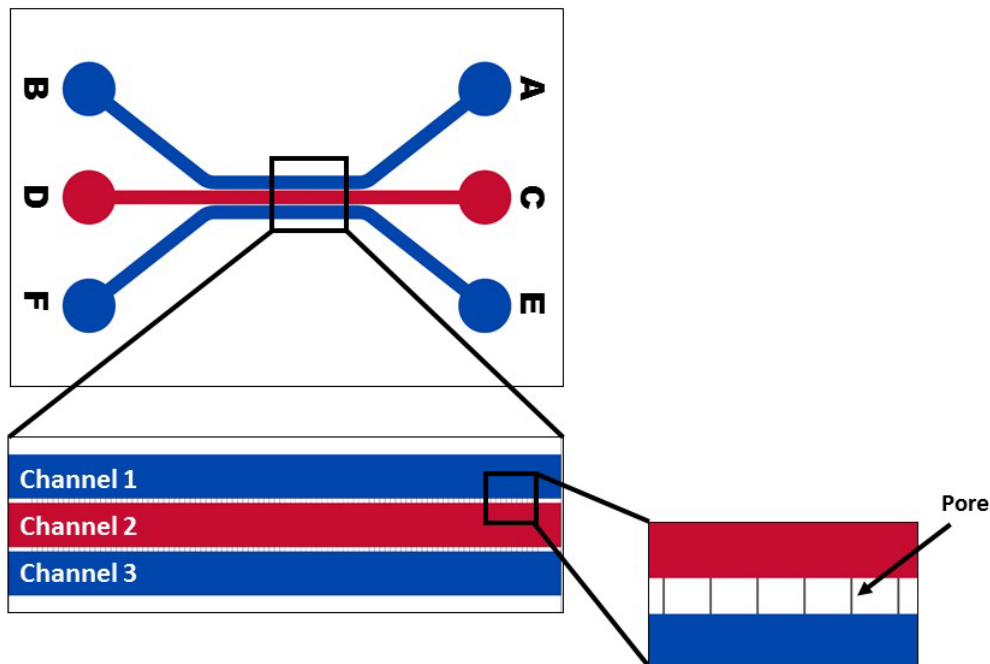

Figure 2. A schematic of inlet and outlet ports A-F on a SynVivo linear device.
1. Unclamp one outlet port of the center channel (the red Channel 2 shown in **Figure 2**).